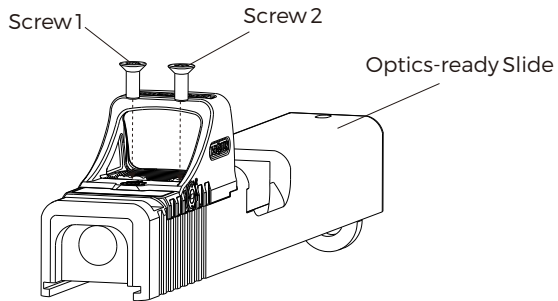

Fig 5
1. Place the SCS on the optics-ready slide or adapter plate (this varies based on your slide configuration).(See Fig 5)